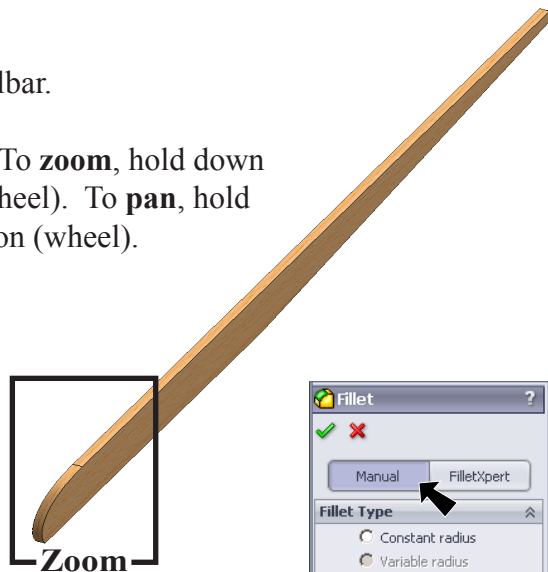

Fig. 25
Step 2. Zoom in around **front of the Fuselage**, **Fig. 25**. To **zoom**, hold down **Shift key** and drag with middle mouse button (wheel). To **pan**, hold down **Ctrl key** and drag with middle mouse button (wheel).